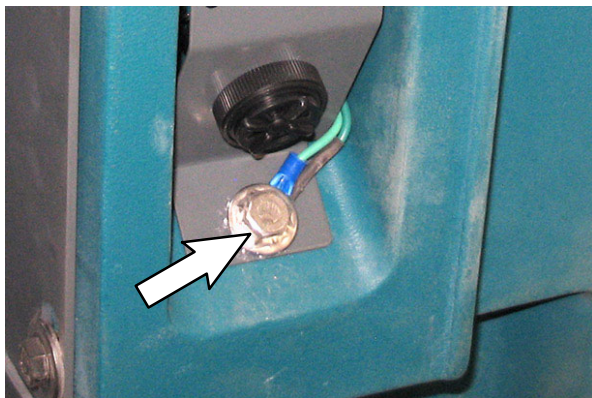
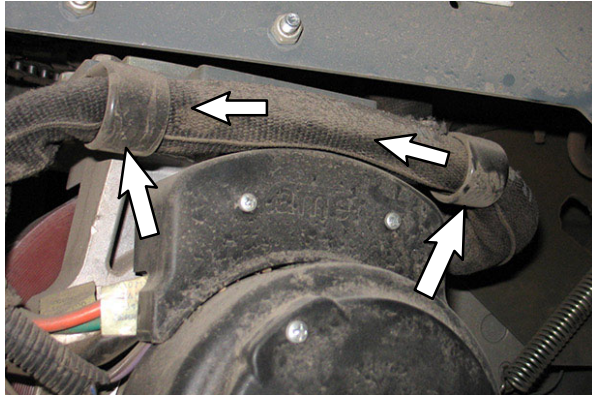
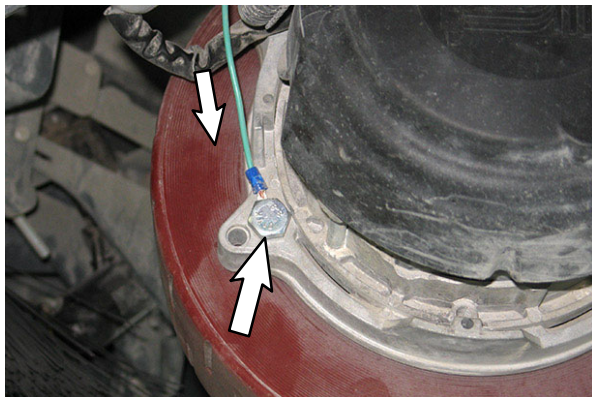
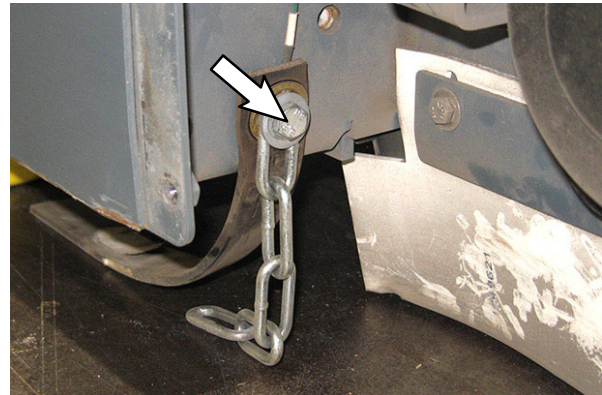

FIG. 3
FIG. 13
FIG. 14
FIG. 15
1. Crimp a ring terminal (3) onto the green wire (1).
2. Use existing hardware to connect end of green wire (1) with ring terminal (3) to the circuit breaker bracket. (Fig. 3)
13. Route the green (1) along the main wire harness, through the two cable clamps on the drive wheel assembly, and down to the side of the drive wheel assembly where the green wire will be installed. (Fig. 13/ Fig. 14)
14. Crimp a ring terminal (2) onto the green wire (1).
15. Use the M10 hex screw (4) to connect the green wire (1)/ring terminal (2) onto the drive wheel assembly. (Fig. 14)
17. Test the machine. Measure the resistance from both ends of the newly installed wire assembly (ring terminals/heads of screws securing the static wire assembly to the drive wheel and circuit breaker bracket) back to the SEMS M8 hex screw securing the static drag chain to the frame of the machine. (Fig. 3/ Fig. 14/ Fig. 15)